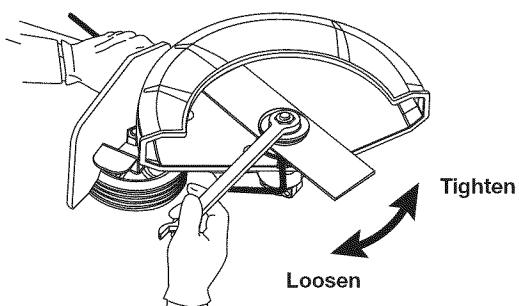

Fig. 8
3. While holding the locking rod, loosen the lock nut by turning it **clockwise** with a 13 mm wrench (Fig. 8).
8. While holding the locking rod, tighten the lock nut by turning it **councclockwise** (Fig. 8). Make sure that the edger blade stays flat and centered against the output shaft while tightening the lock nut.